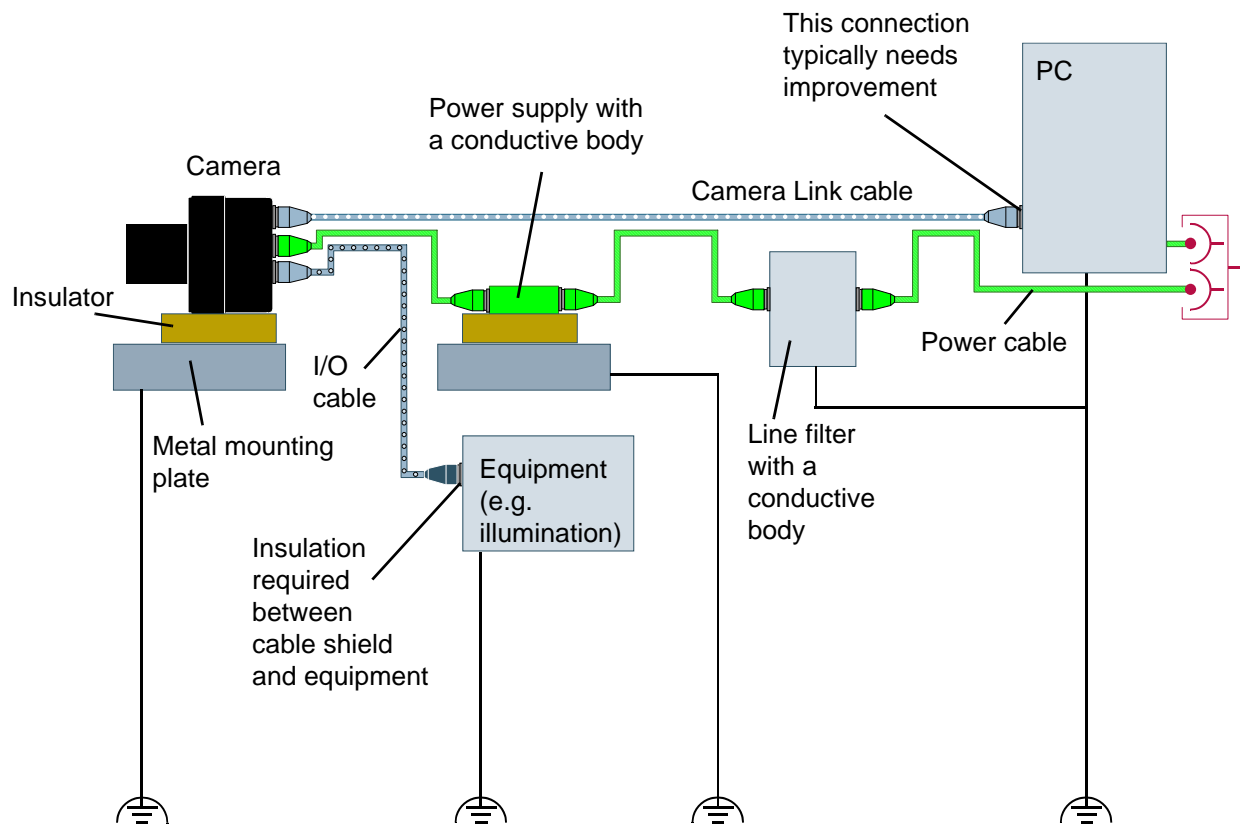

Figure 3: Isolated Camera Link Camera Attached Directly to PC
- Make sure that the PC chassis, the equipment, and the metal mounting plates for the electrical insulators and attached devices (camera, power supply, see Figure 3) are connected to functional earth ground.
- The I/O ground in the camera is isolated from the camera ground. Therefore, the cable shielding on the I/O cable should only be connected at the camera **OR** at your equipment. We recommend connecting the cable shielding at the camera and insulating it from the equipment (see Figure 3).